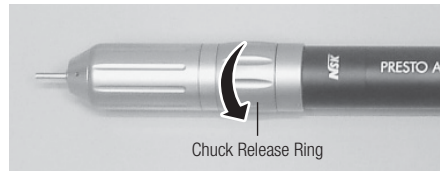

Fig. 14
- 2) When removing the bur, it can be removed by turning the chuck release ring in the direction of the arrow in Fig.14.